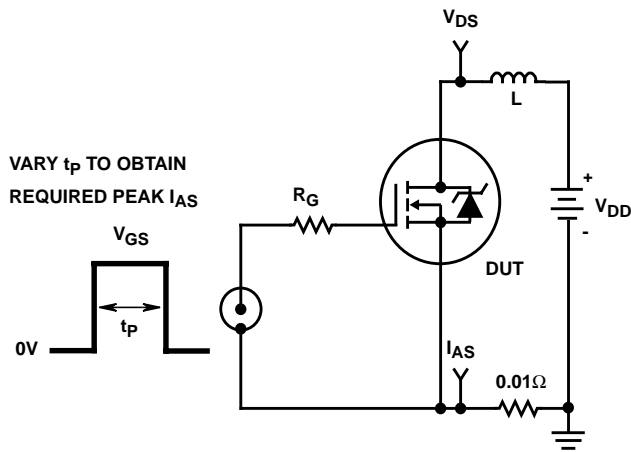

FIGURE 15. UNCLAMPED ENERGY TEST CIRCUIT
4. $V_{DD} = 50\text{V}$, starting $T_J = 25^\circ\text{C}$, $L = 16\text{mH}$, $R_G = 25\Omega$, peak $I_{AS} = 6.8\text{A}$. (Figures 15, 16).